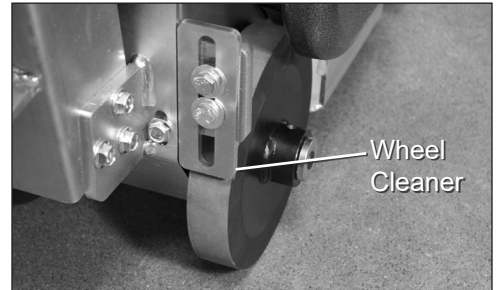

FIG. 8
1. Loosen wheel cleaner with 9/16" wrench (Figure 8).